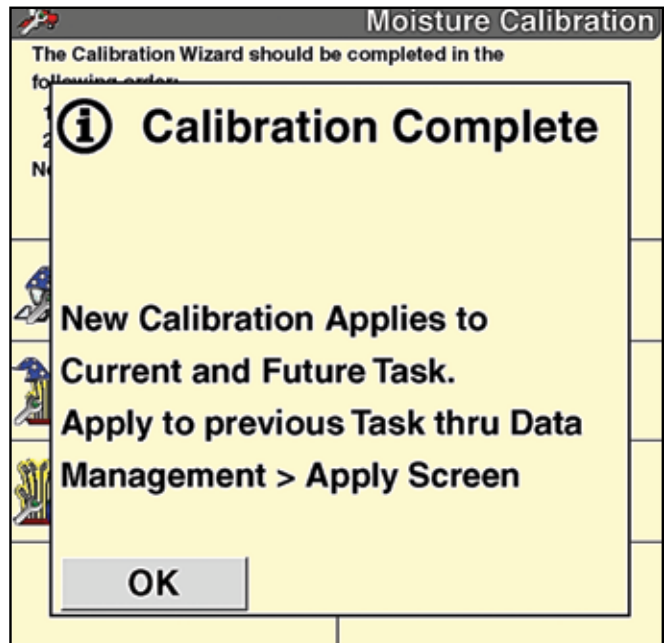

Figure 18.2
- If you press the “Calibrate” button and the error percentage is acceptable, a pop-up message window displays. Press the “OK” button to apply this calibration value to current and future tasks for the crop type on the data device. Use the Apply screen (Home > Data Management > Apply) to apply the calibration to previous tasks. Fast moisture calibration is complete (see figure 18.2).
- Operator can select up to 10 tasks (loads) to apply to calibration (see figure 18.2*)